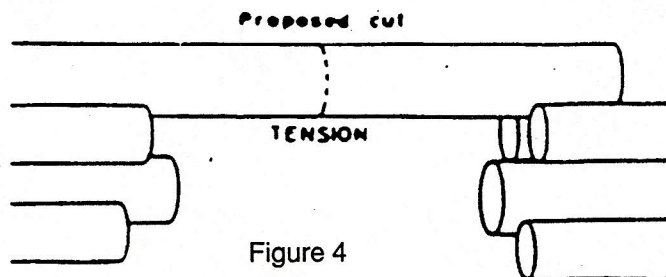

Figure 4
Tension of underside of log (see fig 4)
- 21 Lift and push the lever to ease the butt backwards (Fig 4)